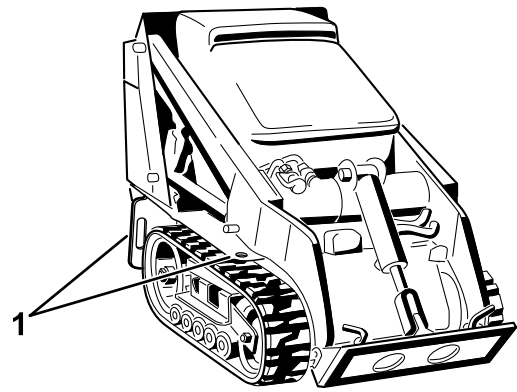

Figure 21
You can lift the machine using the tie-down/lift loops as lift points; refer to Figure 21.
8. Use the metal tie-down loops on the machine to securely fasten the machine to the trailer or truck with straps, chains, cable, or ropes (Figure 21). Refer to local regulations for tie-down requirements.